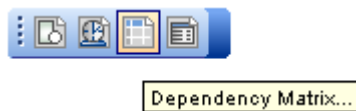

Figure 253 -- Dependency Matrix Button on the Custom Diagram Toolbar
- Custom Diagrams toolbar (Figure 253)